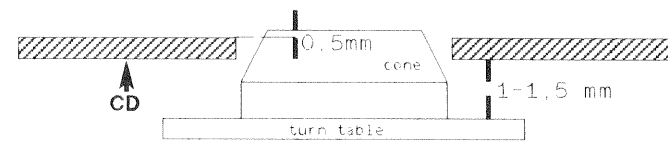

Fig. 32
- Clearance between CD and turntable bearing surface should be 1 mm (Fig. 32).